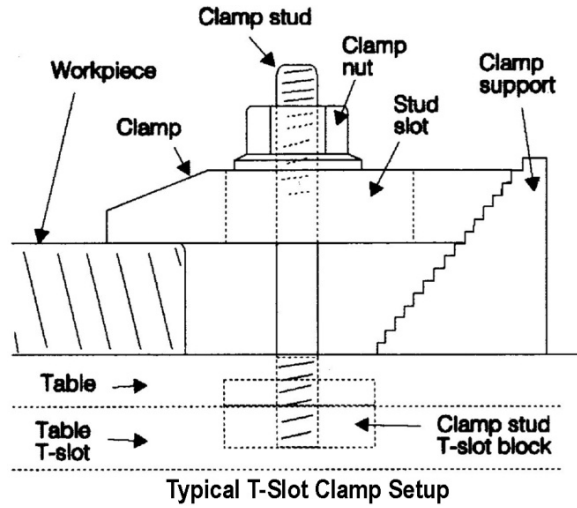

Figure 11
4. Clamp the work piece using the T-slot clamps, studs, and step blocks as required (Figure 11).